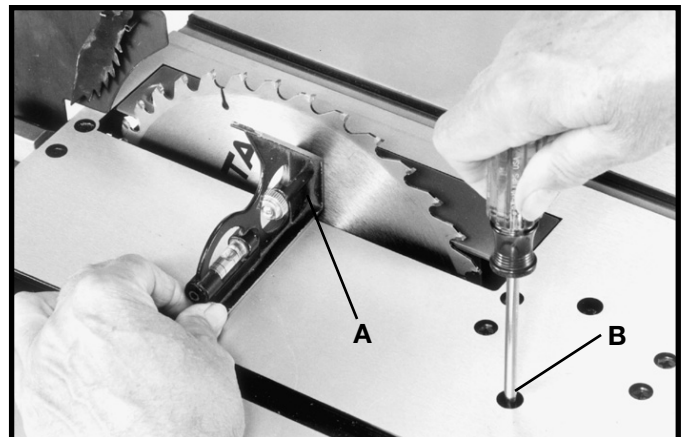

Fig. 41
3. Place a square (A) Fig. 41, on the table with one end of the square against the blade, as shown, and check to see if the blade is at 90 degrees to the table. If it is not, loosen screw (B) a few turns and move the blade tilting mechanism until the blade is at 90 degrees to the table. Then tighten blade tilting lock handle and tighten screw (B) until it bottoms.